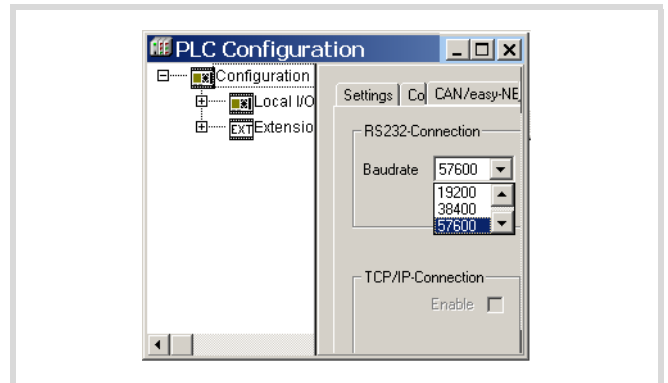

Figure 73: Specifying the CPU's communication settings
The CPU parameters can then be defined again (→ figure 73). These parameter changes must then be adapted again for the PC.
- ▶ In the Baud rate list box select the baud rate (e.g. 57 600 Bit/s as shown in figure 73).